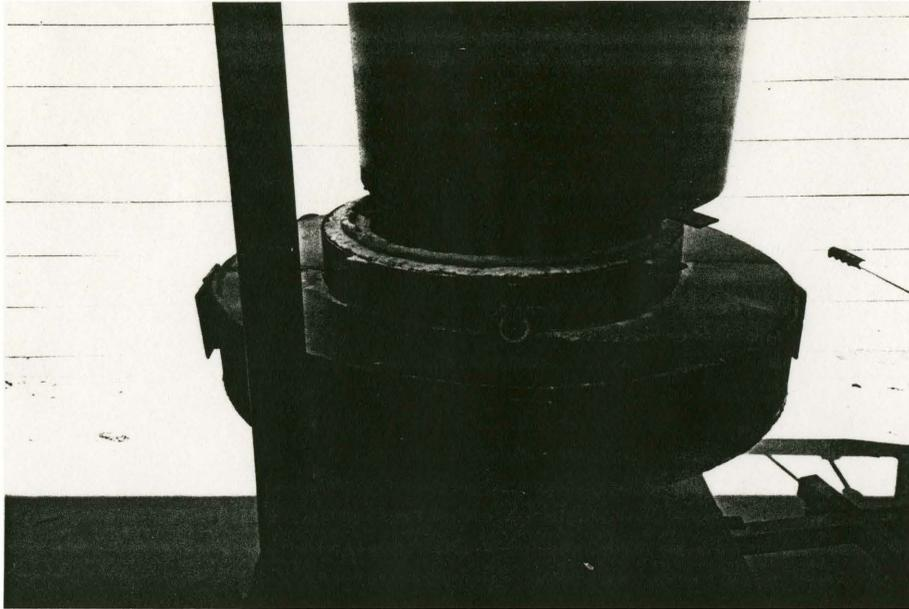

Fig. 6. Connecting stack and well sections.
2. use Blastpatch 85 cement as mortar between the three sections. Roll into "worms" 1 inch in diameter, dust with silica, see Fig. 6.